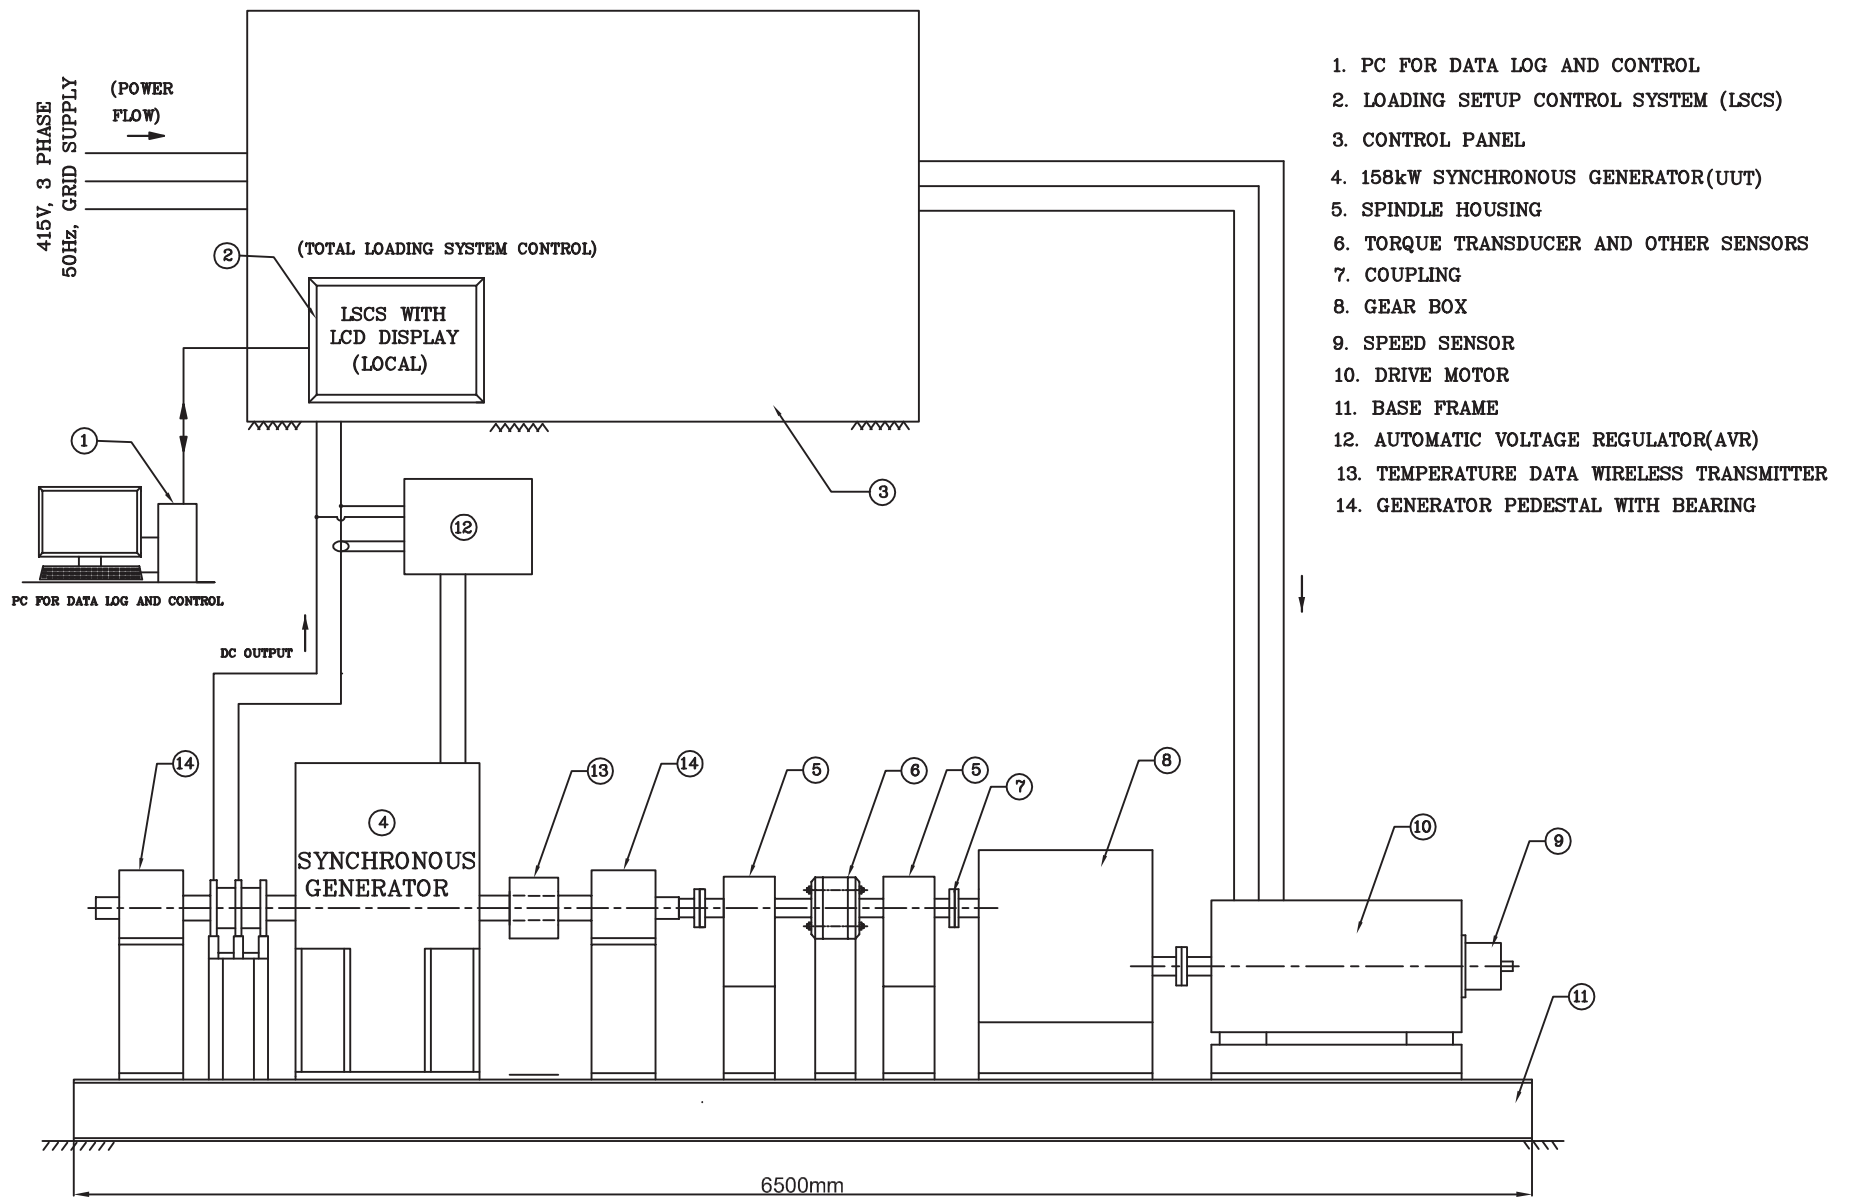

FIG.1: SCHEMATIC DIAGRAM OF 158kW SYNCHRONOUS GENERATOR LOADING SET-UP
26. Base frame: All above mechanical components mounted on common base frame ó fabricated ó suitably engineered for Static, Dynamic and Transient conditions with sufficient space for Synchronous Generator mounting as per Fig. 1.